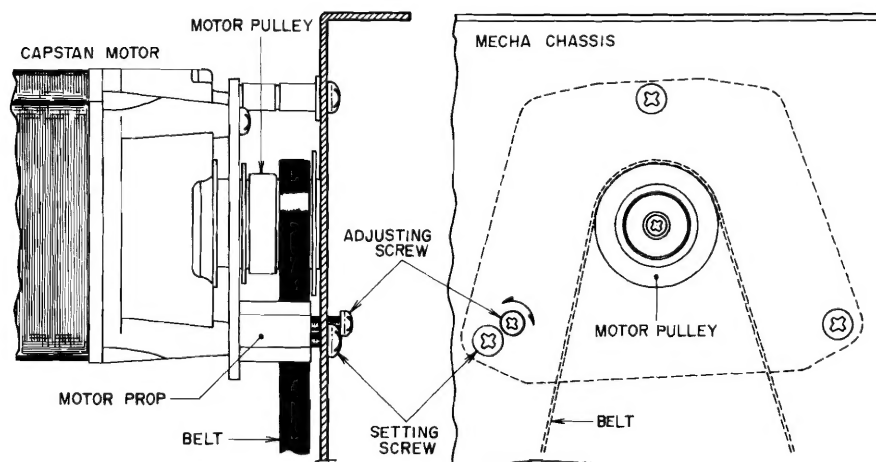

Fig. 7 Flywheel Belt Position Adjustment
- 1) With capstan motor revolutions operating at Rev. mode, loosen setting screw and turn flywheel belt position adjustment screw until the flywheel belt comes to the center of the motor pulley. (Refer to Fig. 7.)